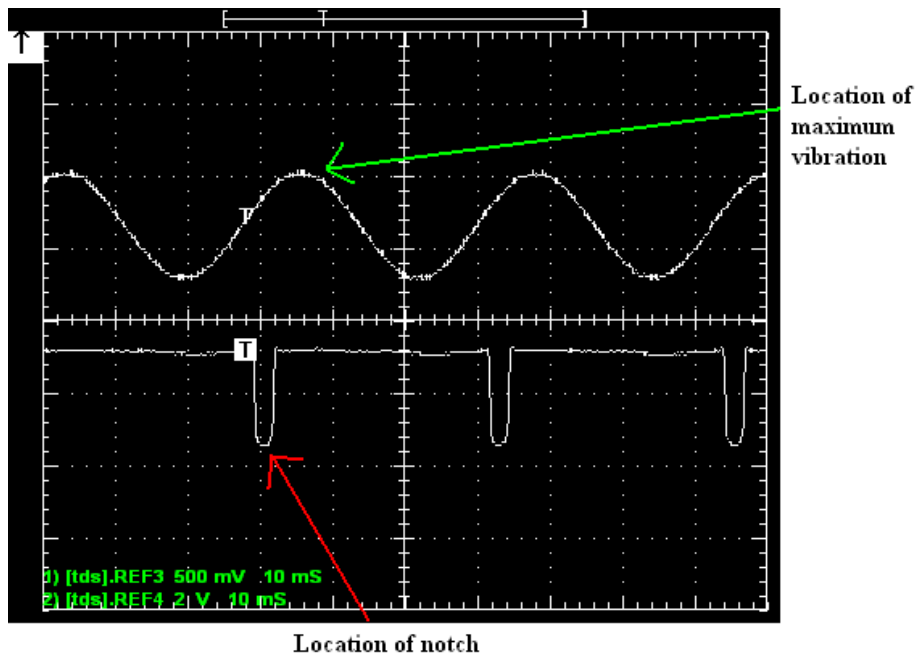

Figure 5: Plot showing method of determining location of maximum vibration
- d) Rotate the shaft with a single, centered rotor mass (no weights added) at a speed setting of approximately 1850 RPM. Channel 1 should look like a sine wave, and Channel 2 will be flat except when the sensor detects the notch. At that point there will be a large dip in the signal, as shown in Figure 5.
- e) Use the Measure function on Channel 1 to determine the period of the vibration of the shaft. Next, push the Run/Stop button to freeze the signal displays. Use the cursors to determine the time between the notch and the maximum vibration (max voltage) in the shaft. This is illustrated in Figure 5.